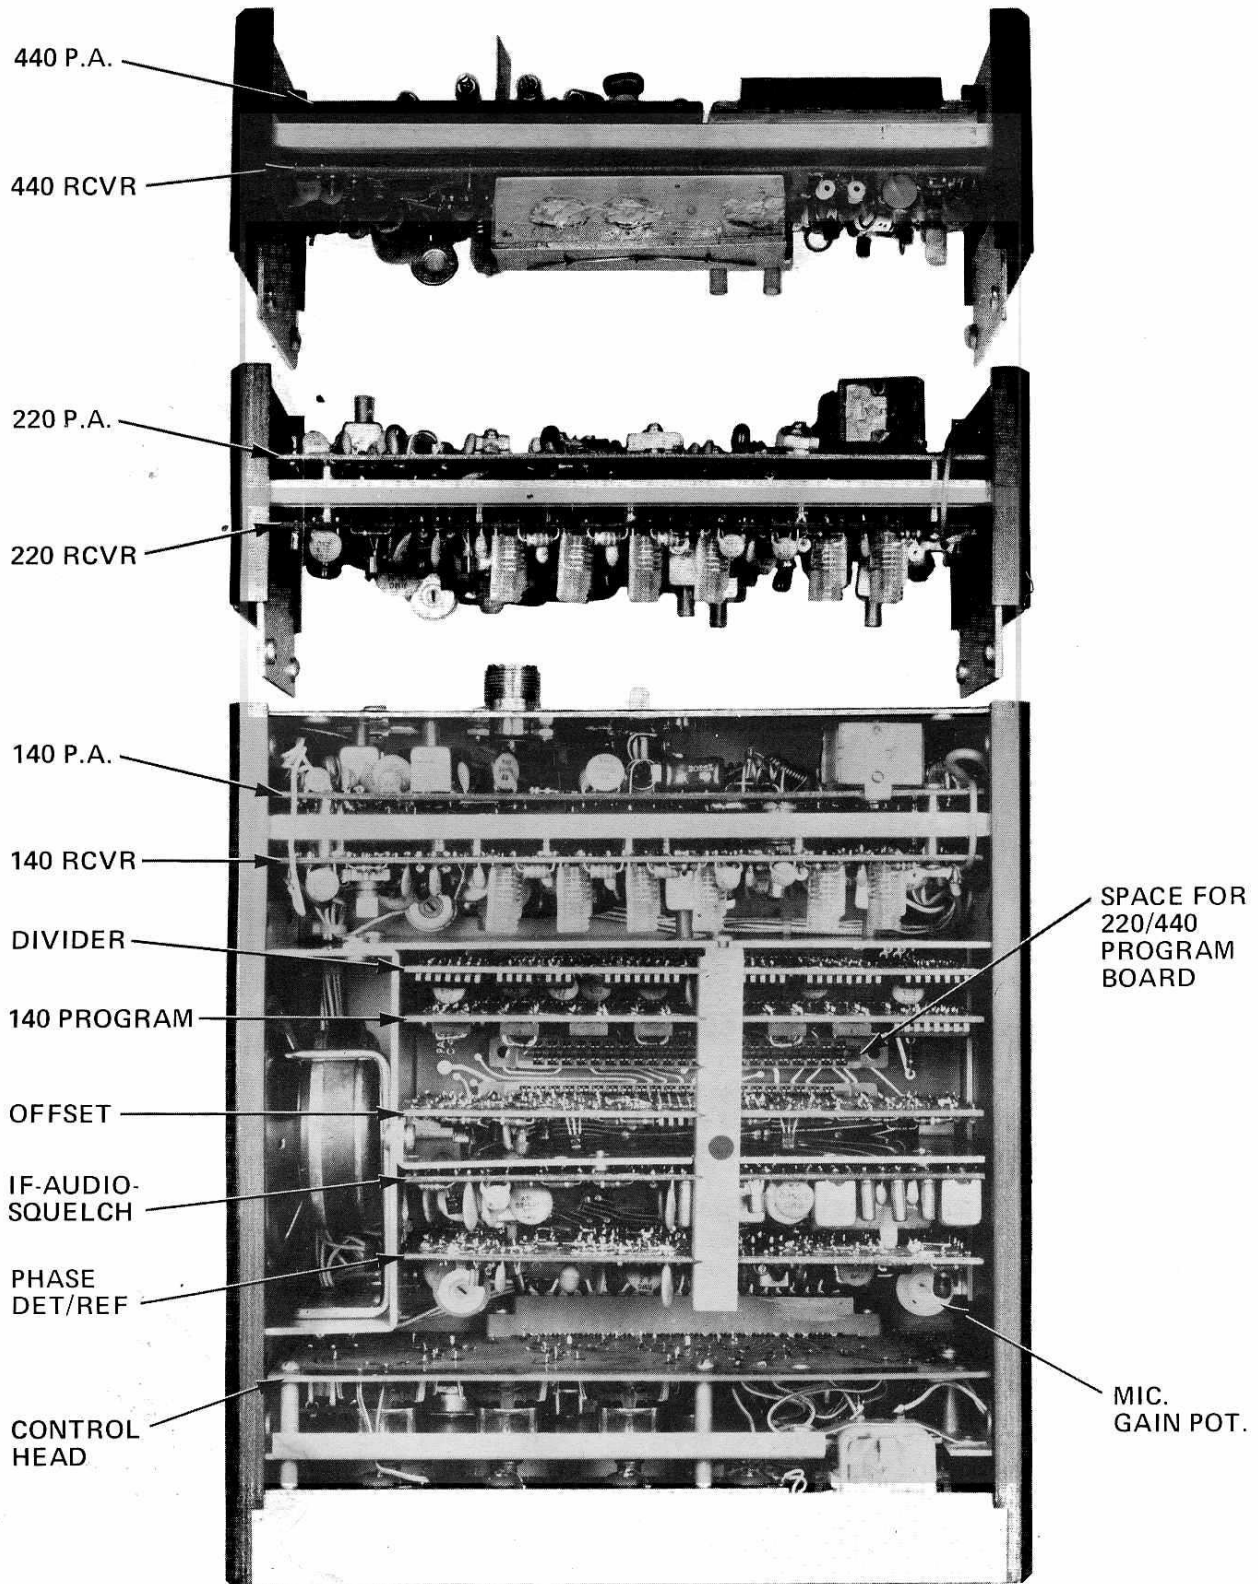
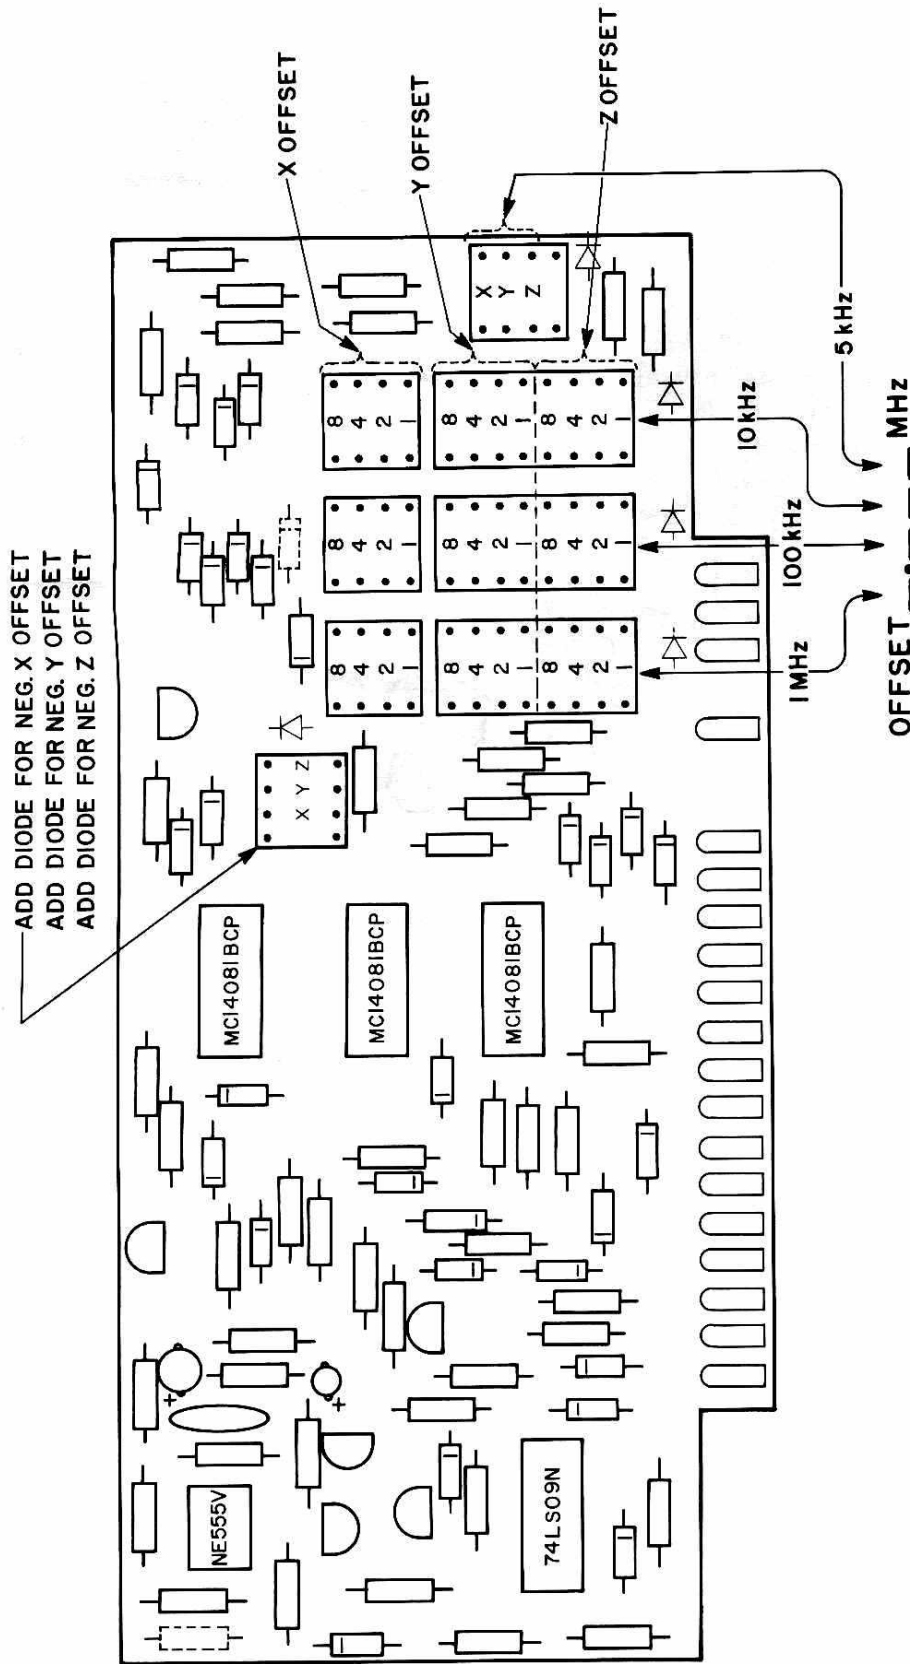

Figure 3-2. Board Locations
Figure 3-4. Offset Board
A standard 500 ohm dynamic microphone is supplied with the UV-3. The microphone is equipped with a #329-1055 connector which mates with the transceiver input receptacle located at the lower right of the front panel. Other microphones may be used with the UV-3, but it is highly recommended that a low impedance (less than 1 k Ω) dynamic microphone be used since the audio processing circuitry is designed for dynamic elements. The use of other microphones may necessitate readjustment of the "mic gain" control located on the "Phase Det/Ref" board. See figure 3-2 for placement of the "mic gain" pot. If readjustment is required, it is easily performed by having other stations give reports on microphone level. Do not adjust any controls other than the "mic gain" pot when attempting to readjust microphone level. Refer to the drawing in figure 2-1, when wiring other microphones for use with the UV-3. Make sure ground and shield connections are made exactly as shown. Note that pin 4 is supplied with a DC voltage through a 1 k Ω resistor. This arrangement provides operating voltage for a Drake 1525 EM encoder microphone, and is not used with other microphones.
The remaining three positions "X", "Y", and "Z" provide offsets which are diode programmed on the OFFSET board. See figure 3-2 for location of the OFFSET board. "X", "Y", and "Z" offsets may be positive or negative as desired and are the same value on all three bands. Complete programming instructions are provided in section 3-5, Programming the Offset Board.
Refer to Figure 3-2. Board Locations, for exact placement of the 140 PROGRAM BOARD. Remove the board using the board puller, and position with the edge connector at bottom as shown on the 140 PROGRAM BOARD. There are 6 columns of integrated circuit sockets labeled A through G. Each column is made of two (2) IC sockets; each socket will accommodate eight (8) diodes. The top four (4) rows of each column are used to program Channel 1. The BAND switch programs 140 megahertz into the synthesizer in the
The CHANNEL selector switch allows selection of four diode programmable channels each, for the 220 MHz and 440 MHz bands. Programming the 220/440 PROGRAM BOARD is similar to programming the 140 PROGRAM BOARD, that is, the *receive frequency and transmit offset frequency* are programmed. Refer to Figure 3-2. Board Locations, for exact placement of the 220/440 PROGRAM BOARD. Figure 3-6 and figure 3-7 are both concerned with programming the 220/440 PROGRAM BOARD. For purposes of clarity, only 220 MHz programming is shown in figure 3-6 and 440 MHz programming is shown in figure 3-7.
Refer to Figure 3-2, Board Locations, to determine the location of the OFFSET BOARD. Remove the OFFSET BOARD only with the board puller. Figure 3-4, Offset Board, shows the program sockets used for programming the X, Y, and Z values of offset. Diodes are plugged into integrated circuit sockets exactly as on the 140 PROGRAM BOARD. Figure 3-4 shows three sections of IC socket positions that correspond to X, Y, and Z offsets. A single four position IC socket is used to program the 5 kHz value of offset (one position is not used). Also, a single four position IC socket is used to program the direction of the transmit offset.
The scanning interval is preset to approximately 3 seconds, but may be changed if desired. Figure 3-4. Offset Board, shows an adjustment resistor for the scan interval, located in the extreme upper left corner of the board. The normal value of the resistor is 470 kilohm and it is this value that determines the 3 second interval. This resistor may be